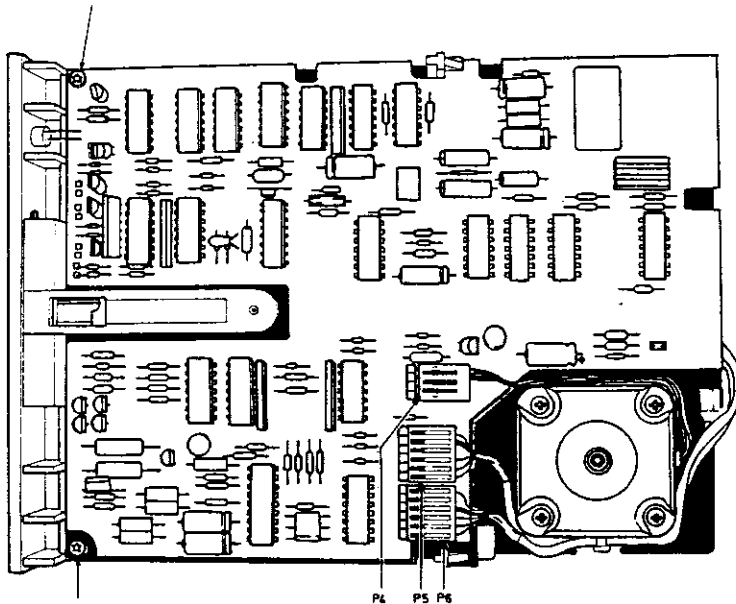

Fig. 2-1 -- Control Board Removal
- Figure 2-1 Control Board Removal